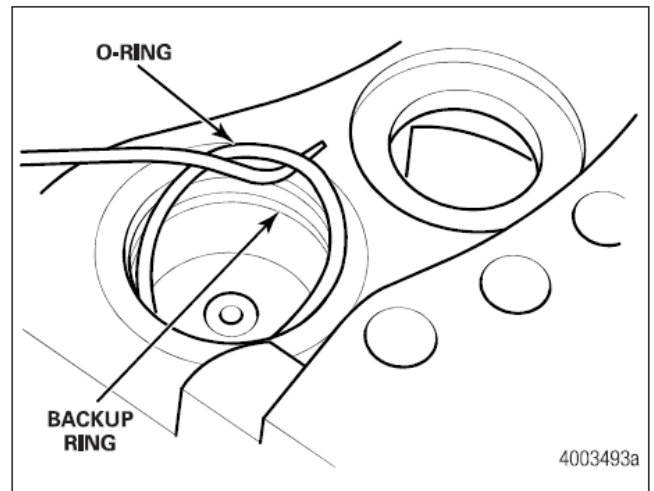

Figure 3.13
17. Use a pick or a suitable tool to remove the three-inch (76,2 mm) diameter service piston O-ring and backup ring from each piston bore groove of the caliper housing. Discard the O-rings and backup rings, Figure 3.13. Use **EXTREME CAUTION** not to damage the bore or O-ring groove.